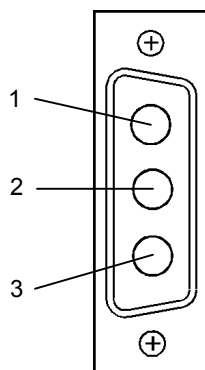

Figure 2-1 -48 Vdc Power and Ground Connector
1. Connect the power source to the booster amplifier power input connector (see figure 2-1, 3-1, and table 2-1). Do not apply power at this time.
The -48 Vdc power and ground connections on the amplifier are made through a 3-pin female D-Sub connector (figure 2-1). Each pin and signal is listed and described in table 2-1.